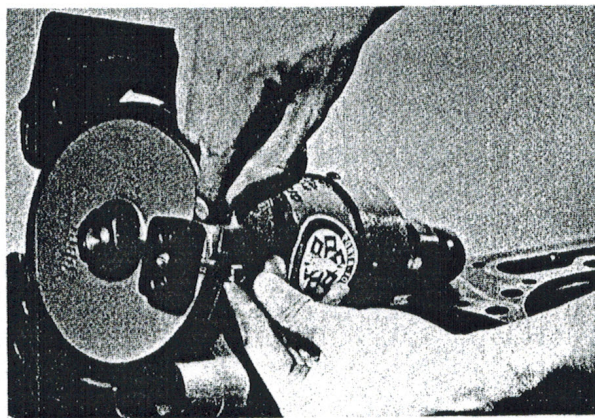

Fig. 5 Preparing to Install Cutter
1. Making sure the cutter (13) is removed from the cutter plate (10 or 32), place the boring machine on the cylinder block above the bore to be cut and start mounting the head cap screws, leave loose. The stud adapter (23 or 33) must be on the cap screws. (See Fig. 5).